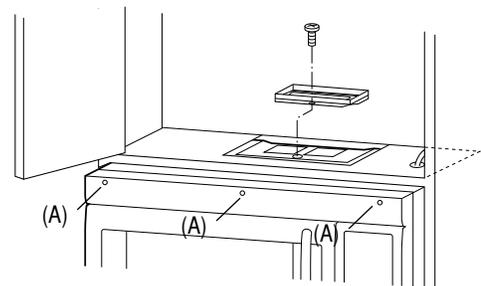

Figure 18
4. Attach louver with screws (A) and tighten (removed in Section 7 on page 3). See Figure 18.